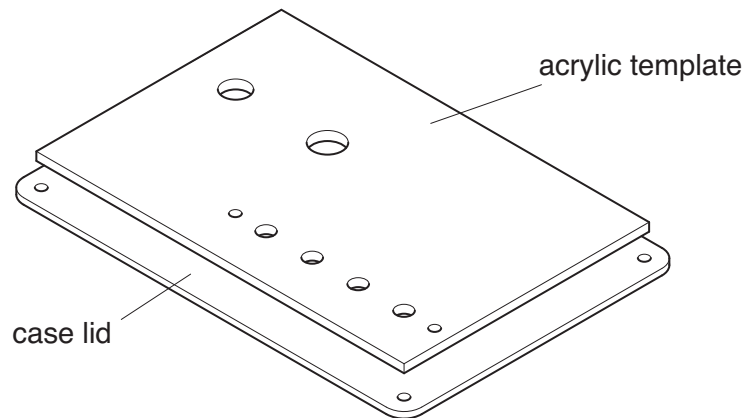

Fig. 3
- (iii) Fig. 3 shows the laser cut template and the case lid that is to be drilled.